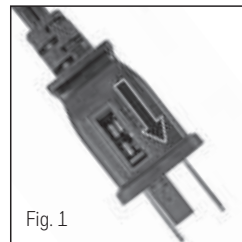

Fig. 1
- Slide fuse cover, located on the top of the plug towards the prongs of the plug. (Fig. 1)